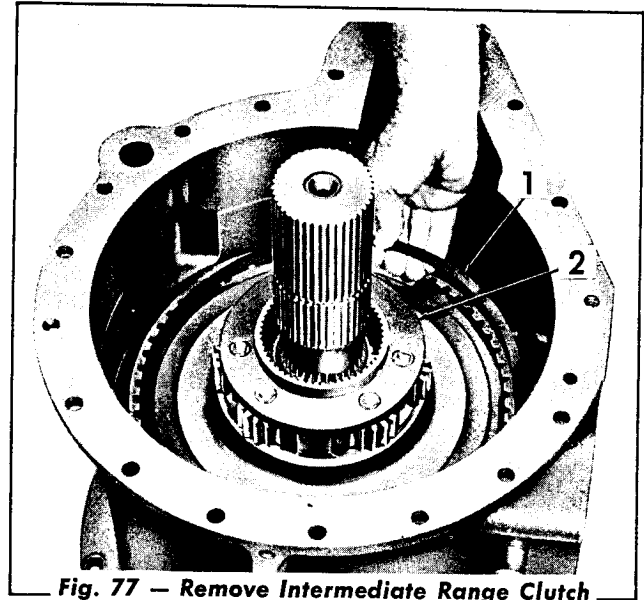

Fig. 77 — Remove Intermediate Range Clutch Hub Snap Ring
15. Remove the internal snap ring (Fig. 77) from the intermediate range clutch hub. Remove the high range planetary carrier assembly.